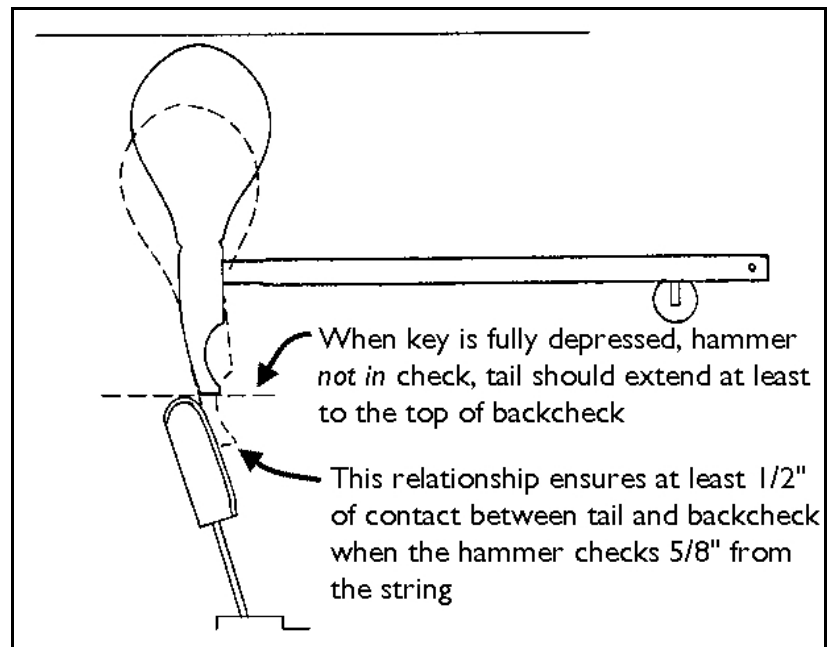

Figure 2: Proper tail length
► **Tail length:** Make sure replacement hammers are long enough to provide adequate tail length for good checking, as shown in Figure 2. Sometimes backchecks can be raised to improve checking when tails are short, but not if this causes large bass & tenor hammers to bump into the backchecks at rest. Tails can usually be $1/8''$ to $1/4''$ longer than original without any problem—in fact extra length will often improve checking and repetition. As a general rule $1''$ is usually a minimum workable tail length.